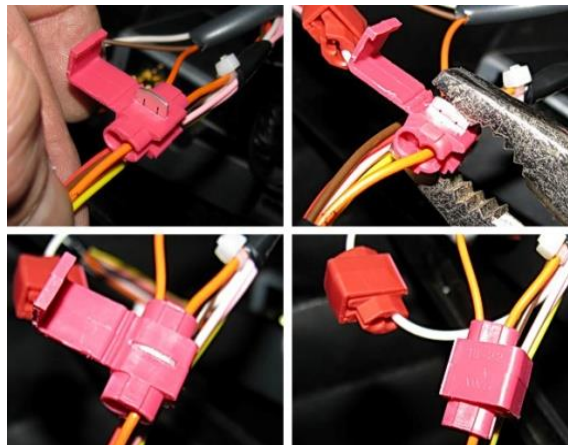

Figure 26 — Wiring connection made with the plastic connectors
**Quick splice connectors** (ordered separately) are recommended for electrical connection of power supply wires (see figure 26).